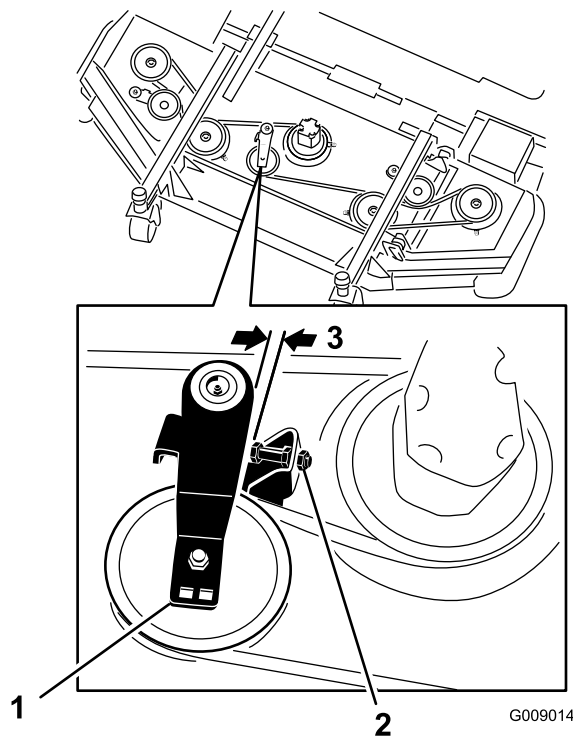

Figure 81
3. On the front deck, loosen the jam nuts on the idler pulley stop screw and thread the stop screw into the bracket (Figure 81).
4. Using a ratchet wrench or similar tool, move the idler pulley away from the drive belt to release the belt tension and allow the belt to be slipped off the deck pulleys (Figure 81).